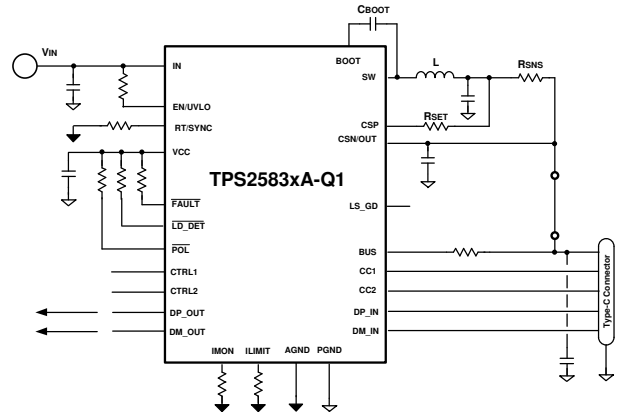

图 10-17. TPS2583xA-Q1 Buck Average Current Limit
- Buck Average Current Limit 图 10-17: